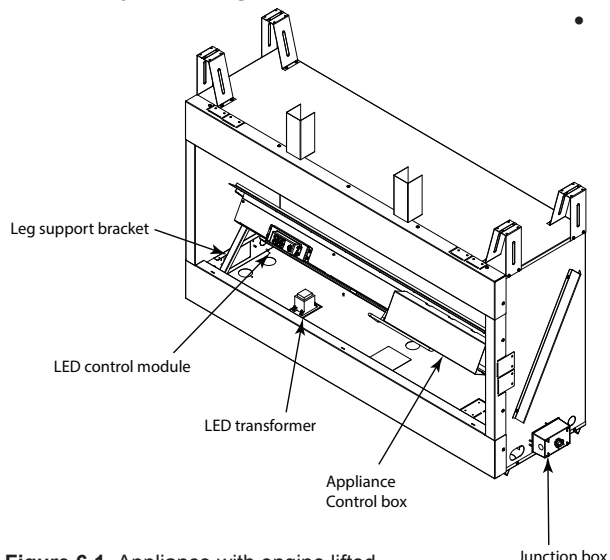

Figure 6.1. Appliance with engine lifted
The valve and controls are located in the appliance control box. See Figure 6.1.
The control box and controls can be accessed by lifting engine assembly and shown in Figure 6.1
- Remove two (2) screws securing burner assembly to appliance, located on the front left and right of the burner assembly directly behind the deflection glass retainers.
- Lift the burner assembly and place the two engine supports, provided under the Engine, against lower front space at the bottom of the face, and slide into the slots at the bottom of the engine assembly. See Figure 6.1.